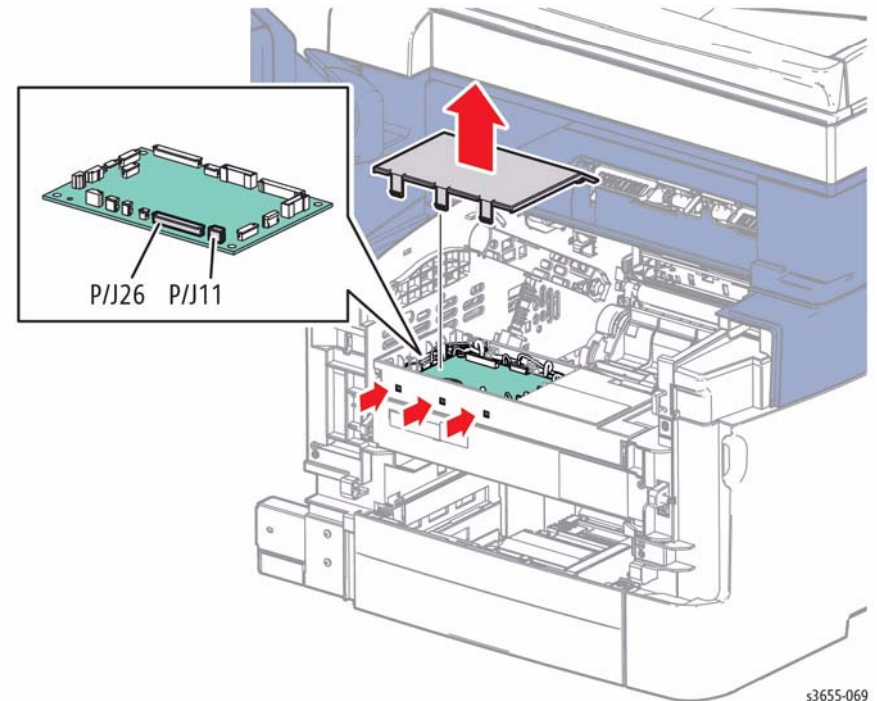

Figure 1 Disconnect the MCU Board
4. Refer to Figure 1 to locate and release 3 hooks to remove the MCU Board Cover, then disconnect all MCU Board connections except PJ11,18 and 26. Do not remove the board.